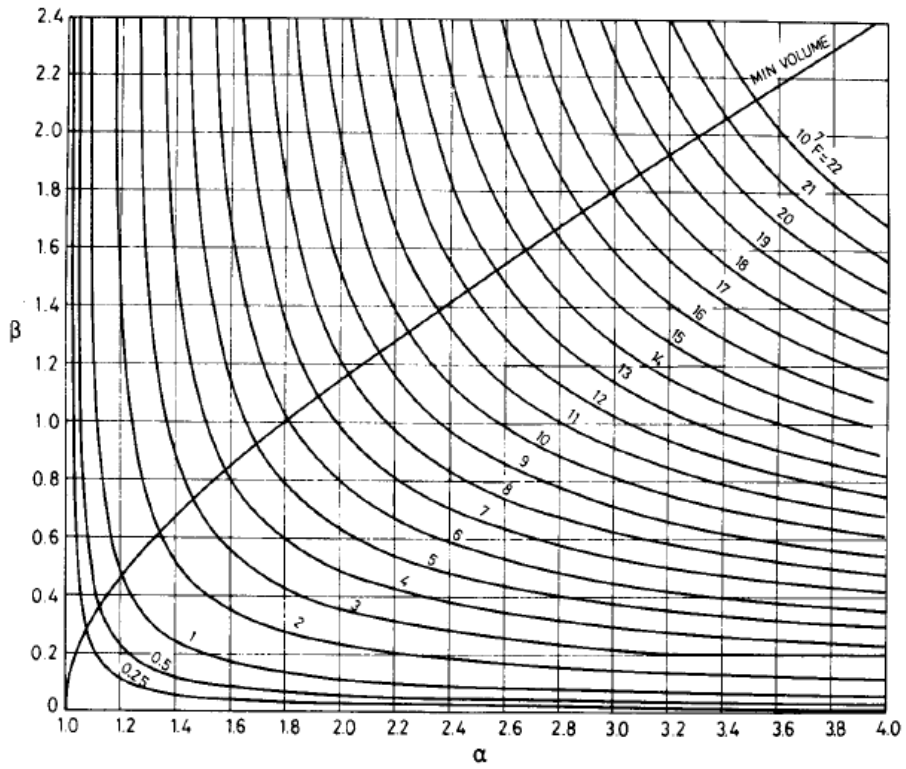

Figure 3: Function F , relating the central field in a simple solenoid to its radius, current density, and shape factors α and β .
Figure 3 includes lines of constant $F(\alpha, \beta)$ and a curve showing the parameter values for a minimum volume design.
- Determine the coil parameters that result in the minimum volume using Fig. 3.